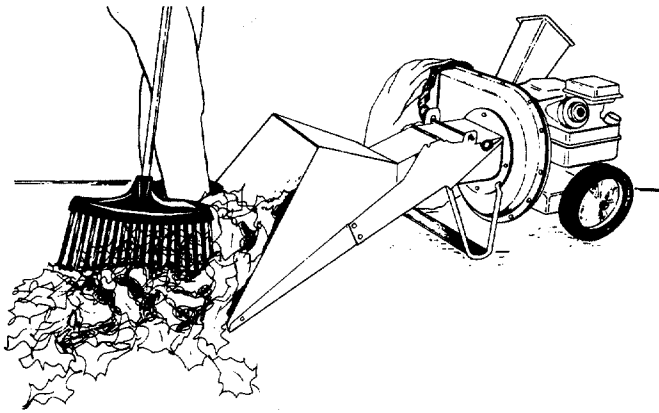
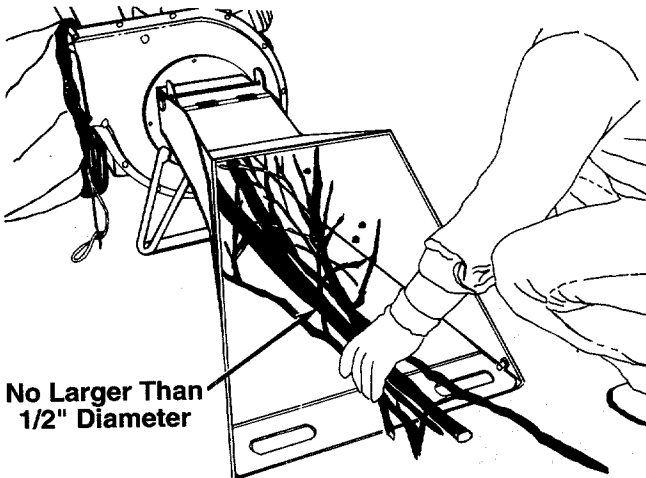

FIGURE 9.
FIGURE 10.
2. Leaves and small twigs can be raked into the shredder when the hopper assembly is lowered to the ground. See figure 9. Small branches up to 1/2" diameter can also be fed into the shredder in this position. See figure 10.